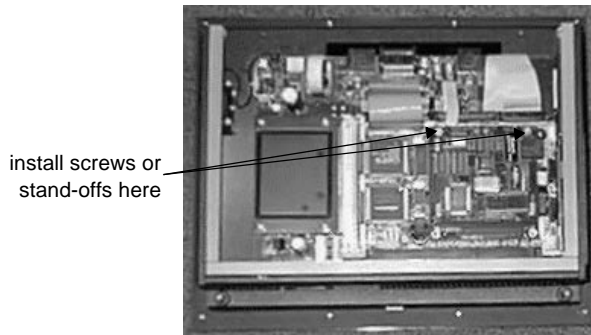

Figure 3 Securing the PC/104 Module
3. Secure the PC/104 module to the CPU card using the hardware that was supplied with the module. See *Figure 3*.